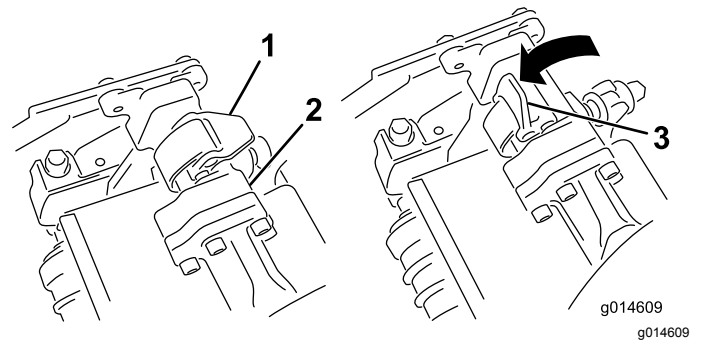
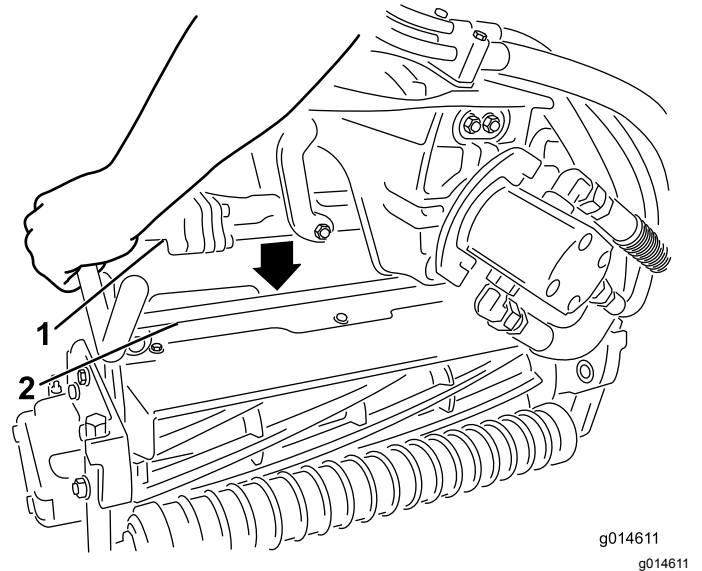

Figure 46
Figure 47
4. Close the latches down and around the cutting-unit bar and lock them in place (Figure 46).
3. With the latches on the suspension-arm bar pointing up (i.e., open) (Figure 46), push the suspension arm down so that the bar fits over the bar across the top of the cutting unit (Figure 47).
4. Open the latches on the suspension-arm bar of the cutting unit you are removing (Figure 46).